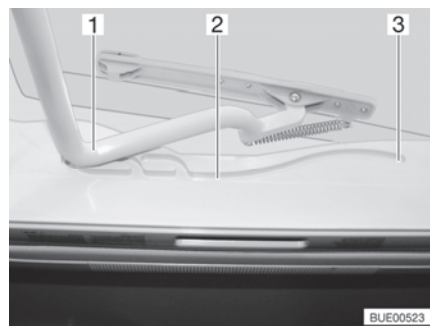

Fig. 18 Guide (Heki skylight)
- Pull the bar (Fig. 18,1) in the guides (Fig. 18,2) to the rearmost position (Fig. 18,3).
- Use both hands to push the bar (Fig. 18,1) slightly upwards.
- Pull the bar in the guides (Fig. 18,2) to the desired position.